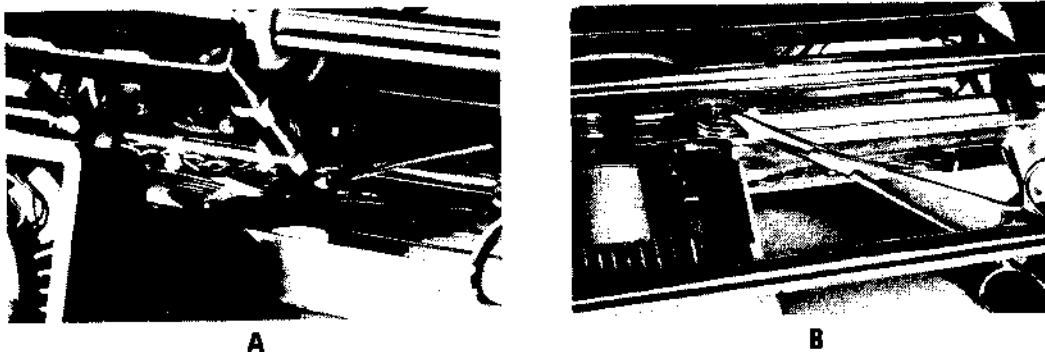

Figure 5-17 DISCONNECTING THE CARRIAGE DRIVE CABLE
Refer to Figure 5-17.
7. Position the carriage slightly to the right of center as shown in Figure 5-17(A), to gain access along the right side of the carriage servo motor to the mounting screw for the carriage drive cable pulley. Install the hemostat clamp on the pulley as shown (use a piece of heavy paper between pulley and clamp jaws to protect the pulley flanges). This prevents the pulley from moving or flipping over and releasing the drive cables. Refer especially to Figure 5-17(B). Note that the clamp is installed to trap the upper forward right-hand cable segment between its jaws as it is clamped to the pulley. Make sure this has been done, and that the clamp is secure before proceeding.